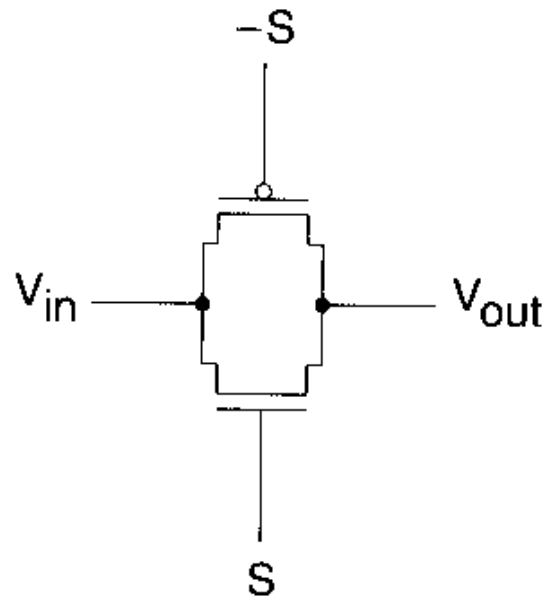

FIGURE 2.32
- The transistor schematic of a transmission gate is reviewed in Figure 2.32. The operation of the transmission gate can be best explained by considering the n-device and p-device as pass transistors individually.